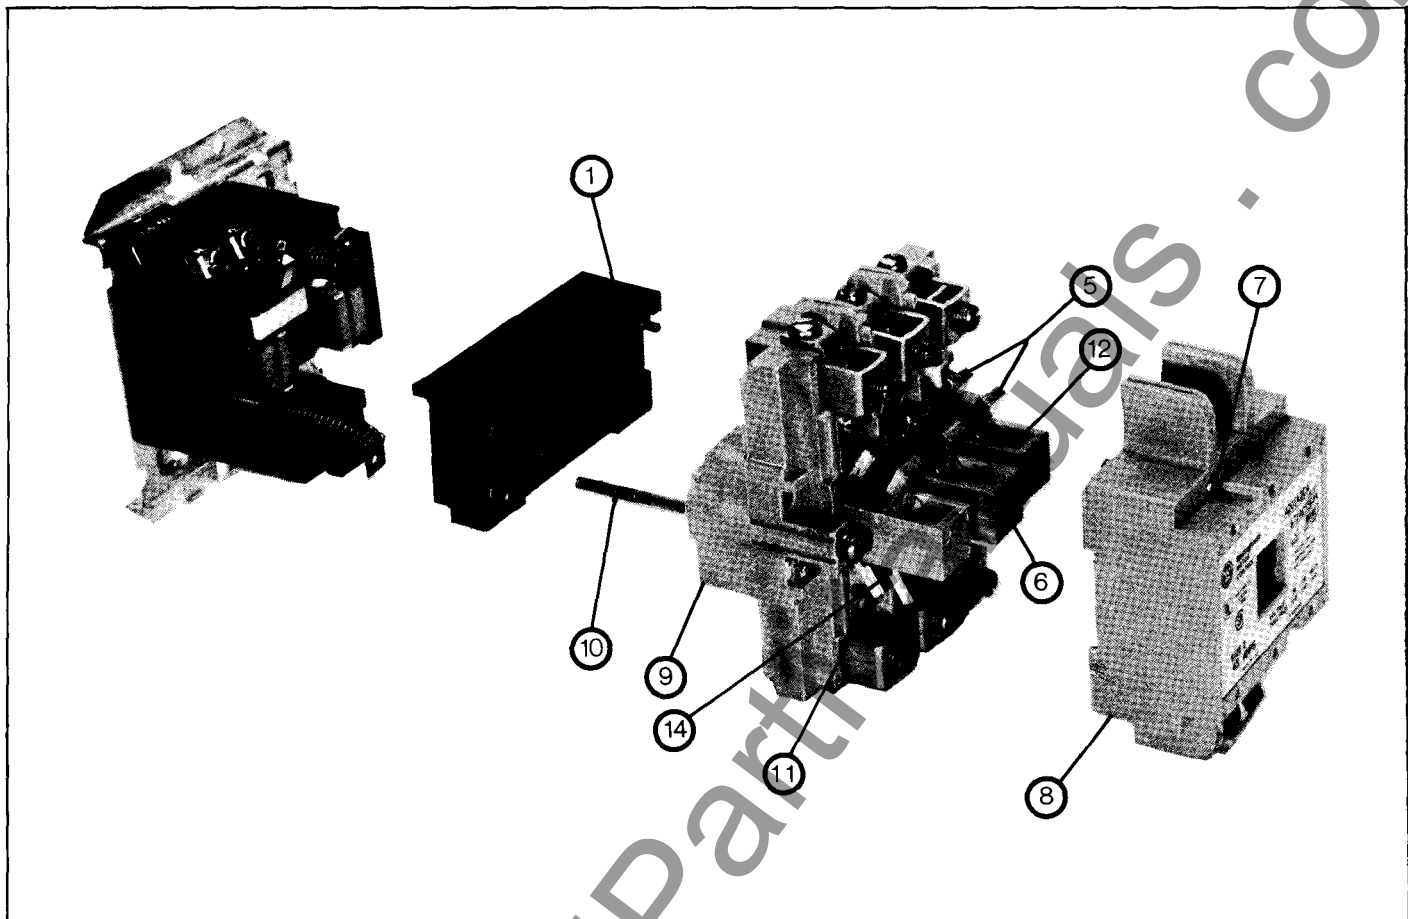

Fig. 11 Size 2 A210 or A250 Contactor (Exploded View)
Refer to Figure 11. Loosen the two arc box assembly screws (7) located immediately above and below the nameplate and remove the arc box (8). Contacts (5) are visible. Retighten the screws per Table V.
Refer to Figure 11. Loosen the assembly screws